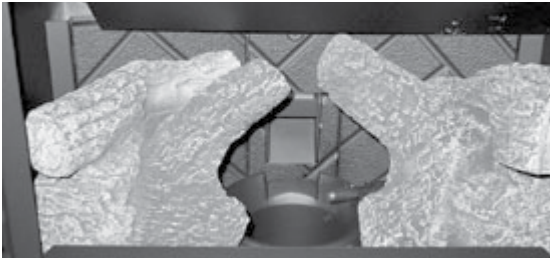

Figure 25.2
4. Push the logs to the far left and far right against the sides of the firebox (**Figure 25.2**).